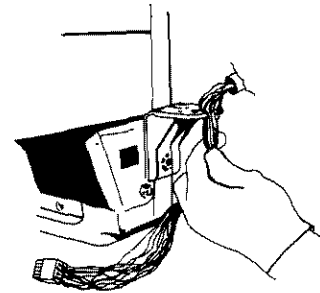

FIGURE 26
- Thread wires through slot in door hinge. See Figure 26. Hinge pin and door closures stay attached to the door.